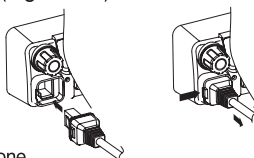

Figure 1-2) Installation and Removing of the Microphone
- Be sure the tab on the microphone plug is facing the left hand side (Figure 1-2)